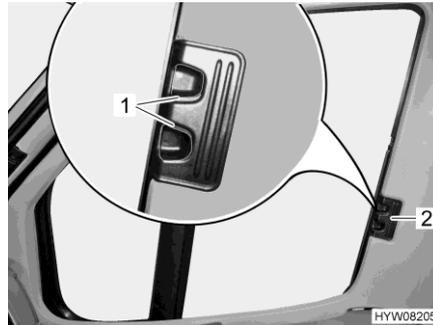

Fig. 24 Roman shade (driver's / front passenger's window)
- Press the locking handles (Fig. 24,1) together and hold them.
- Using the handle (Fig. 24,2), draw the Roman shades for the driver's and passenger's window to the other side of the window and secure them to the magnetic strips.
- Use handle (Fig. 24,2) to push in the Roman shades for the driver's and passenger's window as far as possible.
- Let go of the locking handles (Fig. 24,1) and let them engage.